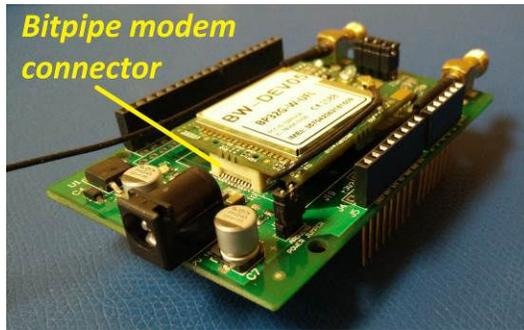
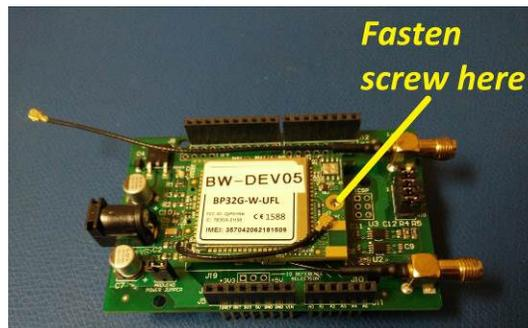

Figure 9: BitPipe™ modem connector
Figure 10: BitPipe™ fastening screw
- Carefully align and install the BitPipe™ to the shield BitPipe™ connector. Do not use excessive force as this may damage the connector(s). See Figure 9 and Figure 10.